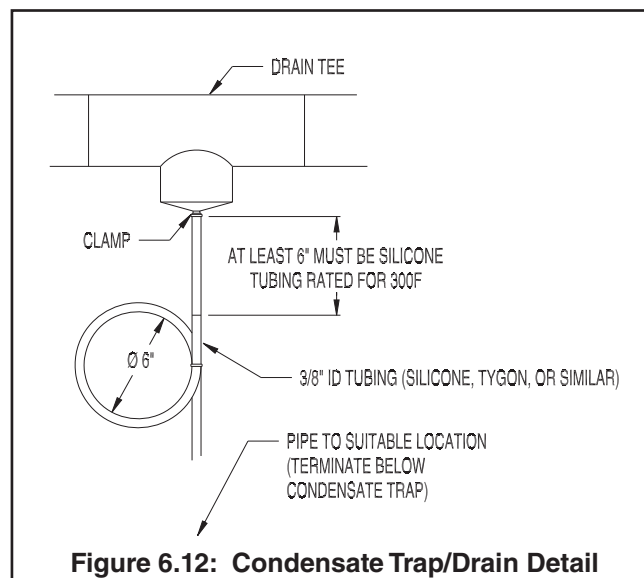

Figure 6.12: Condensate Trap/Drain Detail
- a. Trap must have the basic configuration shown in Figure 6.12. All tubing is 3/8" I.D.